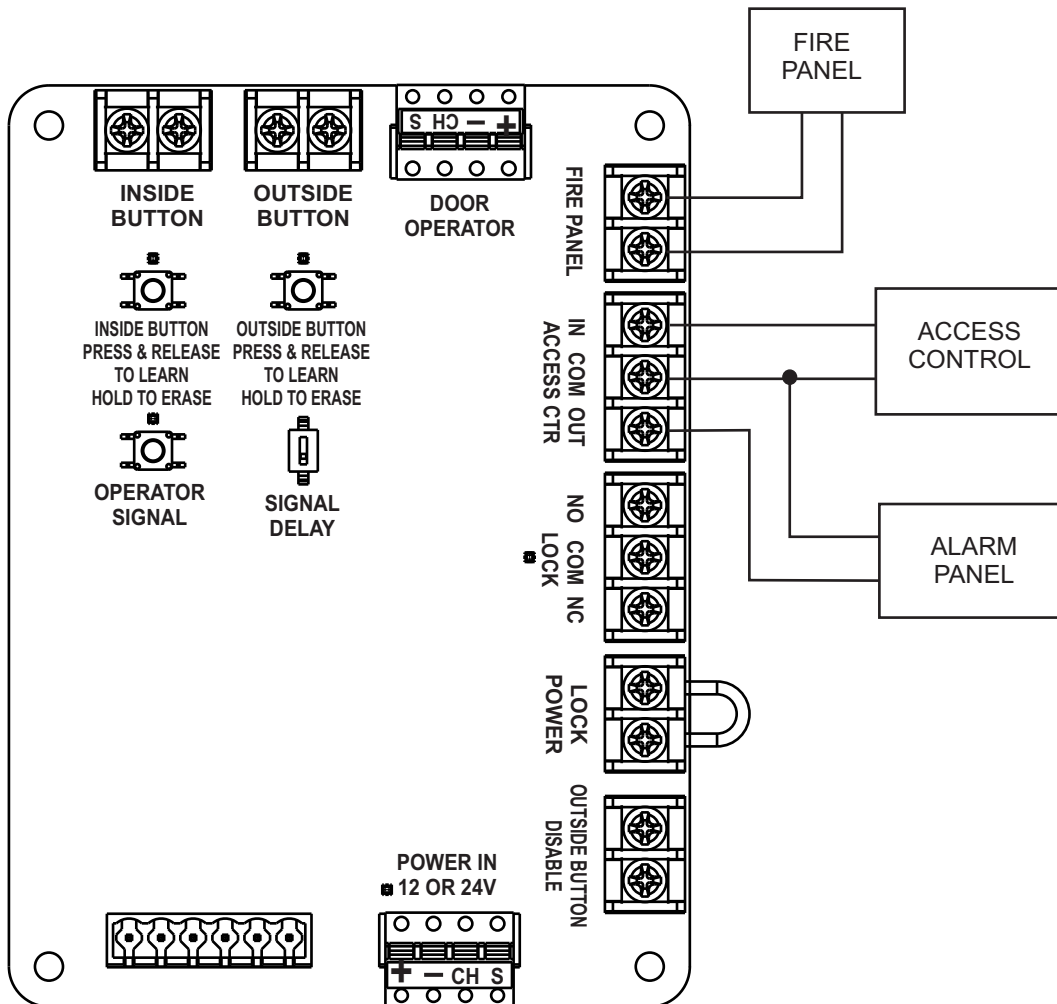

Figure 6
1. Refer to Figure 6 and connect the optional Access Control Input contact, Alarm Panel Output contact, or Fire Panel Input contact.
1. Refer to Figure 6 and Connect the OUTSIDE PUSH BUTTON DISABLE contact to the deadbolt monitoring switch.